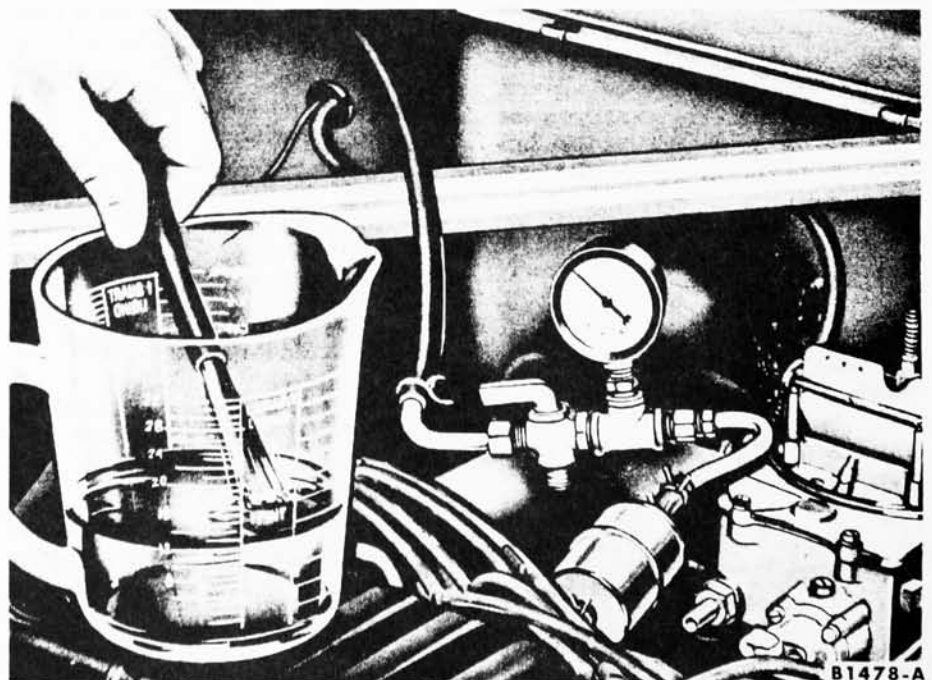

FIG. 17—Fuel Pump Pressure and Capacity Test
16. Check Fuel Pump Pressure And Capacity. Disconnect the fuel line at the carburetor. Install a pressure gauge (0-15 psi) and a petcock on the carburetor fuel inlet line (Fig. 17). Vent the system, by opening the petcock momentarily, prior to taking a pressure reading. Operate the en-